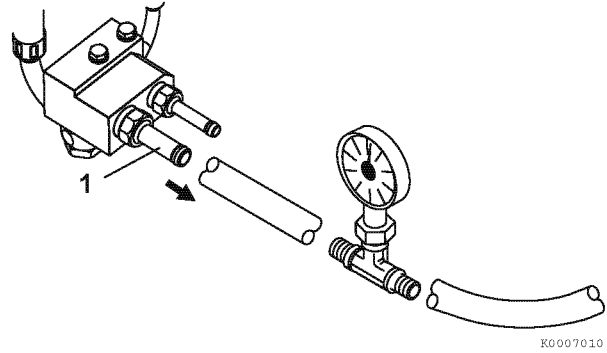

Figure 6-8
2. Disconnect the hose from the fuel return line (1, **Figure 6-8**).